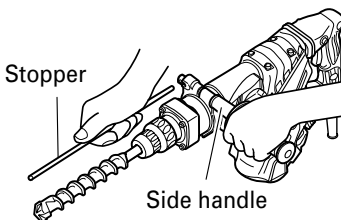

Fig. 10
- (d) Switch the selector lever to “hammering” according to the procedures mentioned in the above item (1) and secure the position of the tool.
5. Install the stopper (Fig. 10)